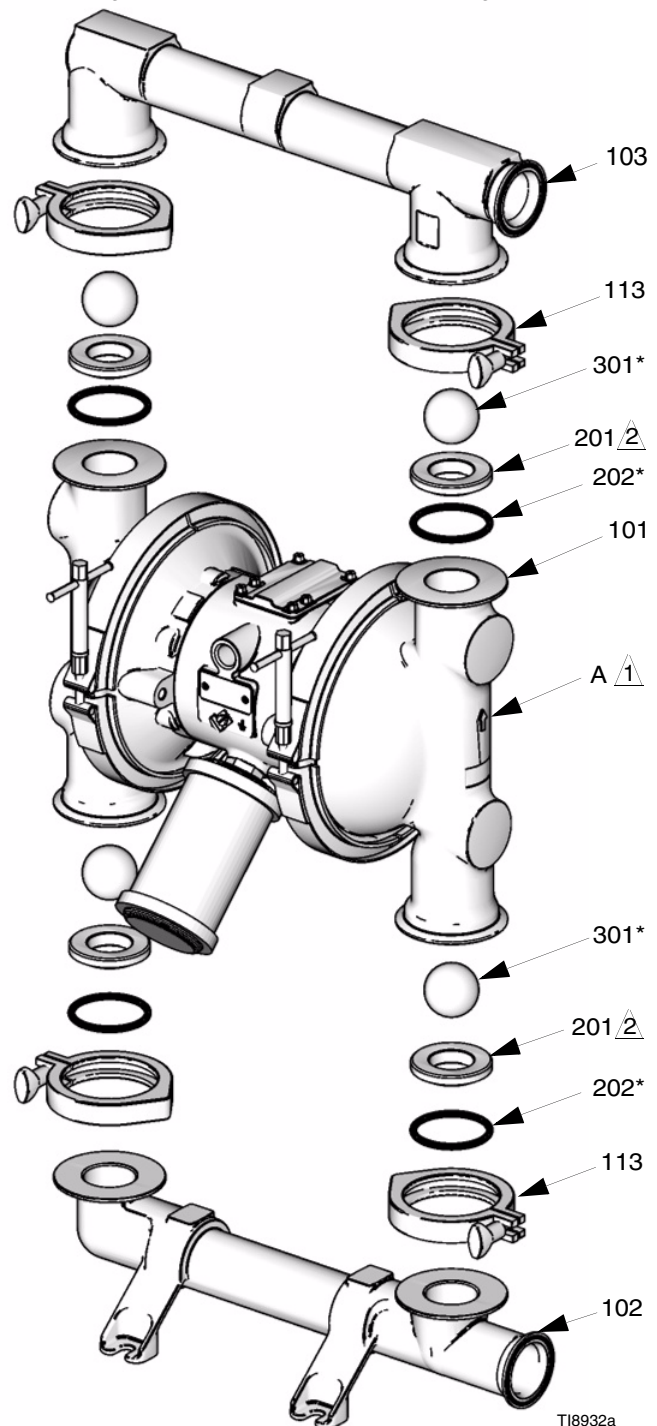

FIG. 9
3. Remove the clamps (106) holding the outlet manifold (103) to the fluid covers (101). See FIG. 9.
4. Remove the o-rings (202), seats (201), and balls (301) from the manifold (103).
5. Turn the pump over and remove the inlet manifold (102). Remove the o-rings (202), seats (201), and balls (301) from the fluid covers (101).
2. Reassemble in the reverse order, following all notes in FIG. 9. Be sure the ball checks and manifolds are assembled **exactly** as shown. The arrows (A) on the fluid covers (101) **must** point toward the outlet manifold (103).
- 1 Arrow (A) must point toward outlet manifold (103)
- 2 Radiused seating surface must face the ball (301). Large chamfer on O.D. must face o-ring.